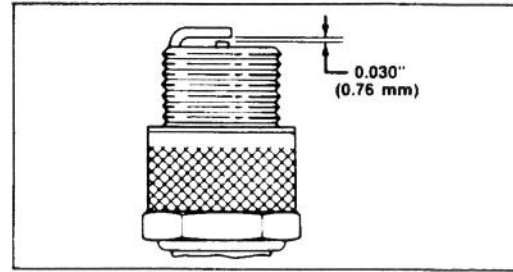

Figure 29
### REPLACING SPARK PLUG (Fig. 29)
- Set air gap between electrodes of new spark plug at 0.030 of an inch (0.76 mm) (Fig. 29). Next, install spark plug in cylinder head. Tighten plug to 15 ft-lb (20.4 N·m). If torque wrench is not used, tighten plug firmly.